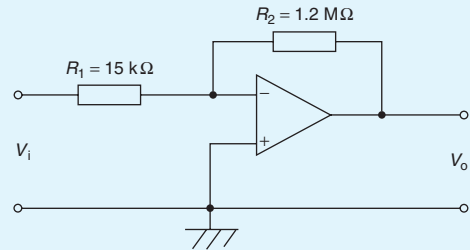

Figure 19.7
5. The op amp shown in Fig. 19.7 has an input bias current of 90 nA at 20°C. Calculate (a) the voltage gain, and (b) the output offset voltage due to the input bias current.